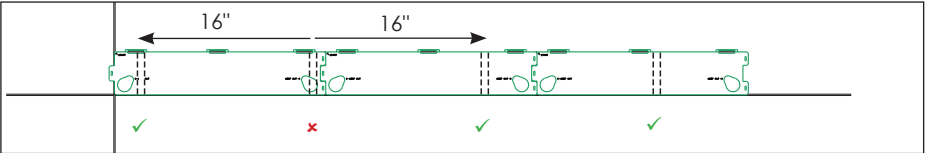

Figure 5: Move Studs at Interference Locations
5. Mark new tube mounting locations at 16" increments on both sides of the stud if a stud location directly overlaps with a KEEP OUT slot. Refer to **Figure 5**.